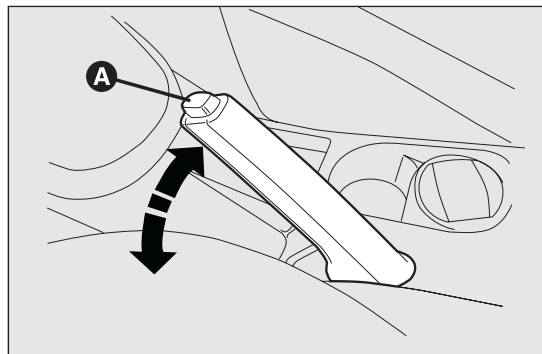

fig. 136
- ☐ slightly lift the lever and press release button A fig. 136;